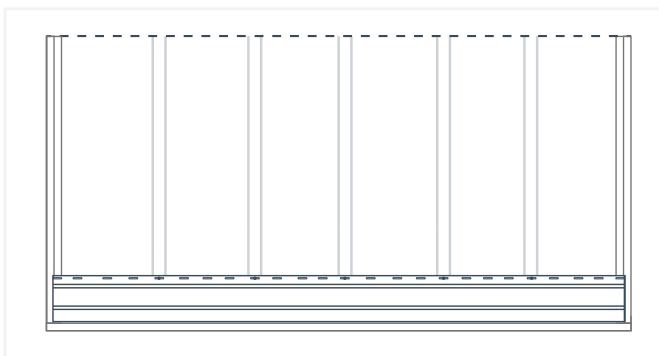
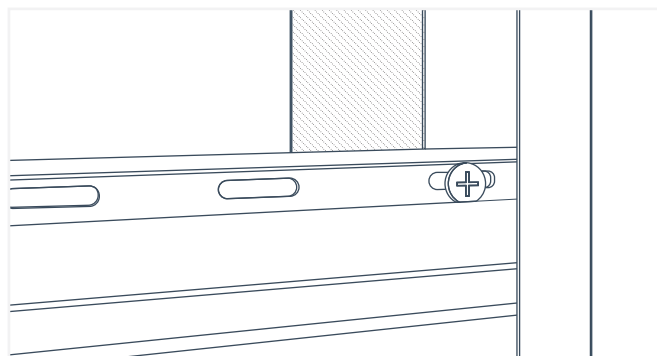

Fig. 30
Fig. 31
9. Insert the first SlatWall panel between the two vertical J Trims and slide it down until it fits fully into the bottom J Trim (Fig. 30). Fasten the panel through the slotted screw flange into each stud along the length of the panel (Fig. 31).